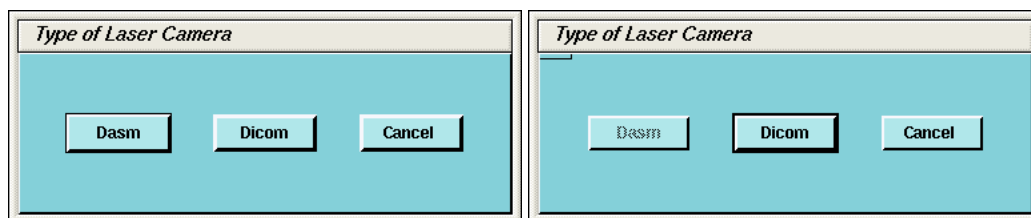

Figure 7-11 Dialog Box for camera Type (with and without DASM)
- b.) A dialog window for the camera type (DASM/DICOM) appears. If no DASM is detected during the OC boot, the DASM button will be disabled (Figure 7-11). If a DASM is present and has not been detected, reboot the OC and run the camera configuration tool again.